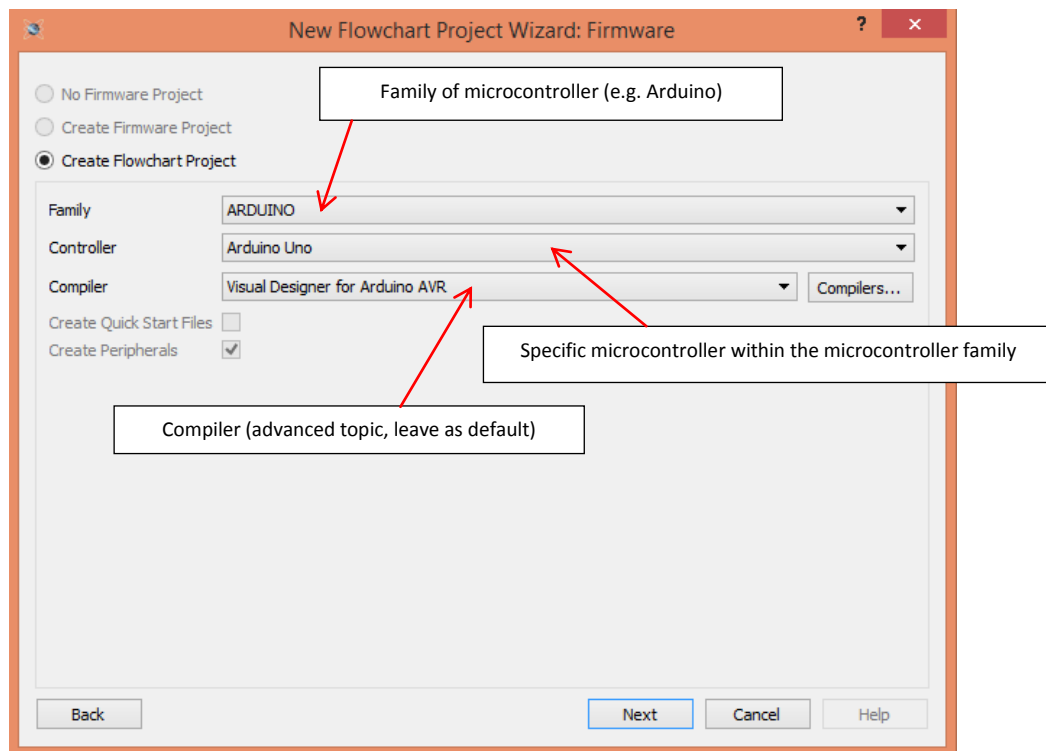

Figure 2-3: Firmware selection options for New Project
Step 3: The next step of the New Flowchart Project Wizard process is the Firmware setup step (see Figure 2-3). “Firmware” is the name for a microcontroller³ software program – it is the instructions (which we will be developing) which tell the microcontroller what to do. This step in the wizard is used to specify which microcontroller we would like to develop firmware for.